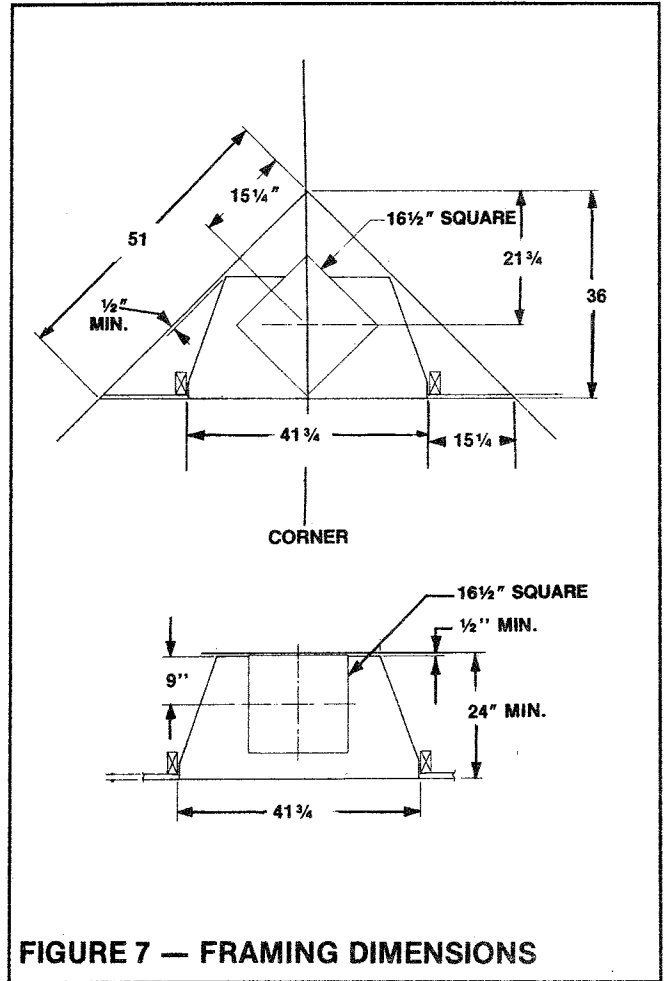

FIGURE 7 — FRAMING DIMENSIONS
STEP 4: On the ceiling directly above the center of the double-wall pipe, lay out a 16½-inch square hole (use plumb bob) and cut out for chimney exit (Figure 7).